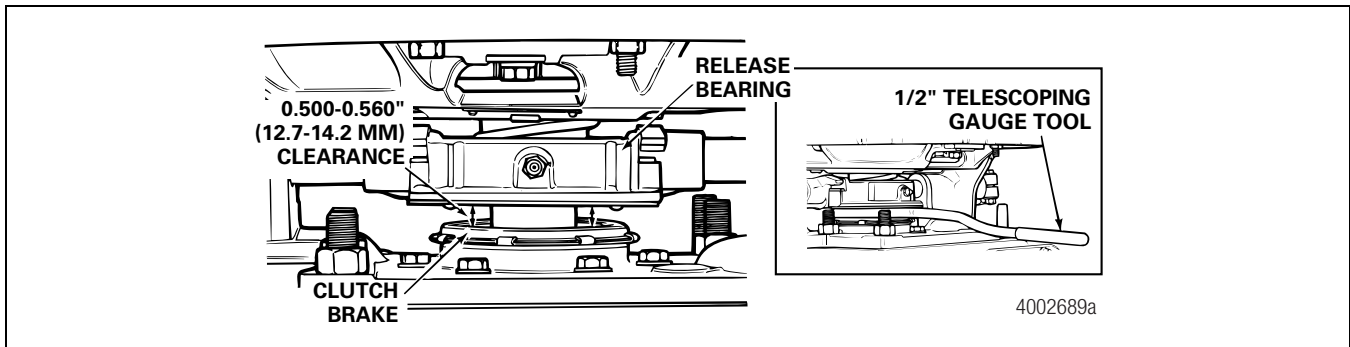

Figure 3.10
2. **Release Bearing Clearance.** The AutoJust™ clutch clearance should be 0.500-0.560-inch (12.7-14.2 mm). Figure 3.10.